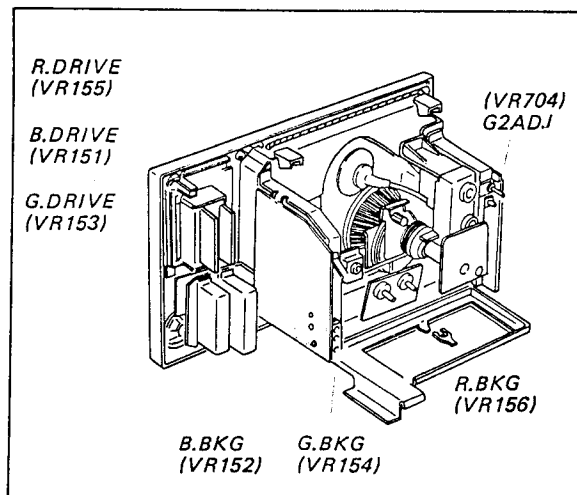

Fig. 3-17. Adjustable parts location
3. Referring to Fig. 3-17, set the adjustment controls as follows:
Procedure: (Refer to Fig. 3-17.)